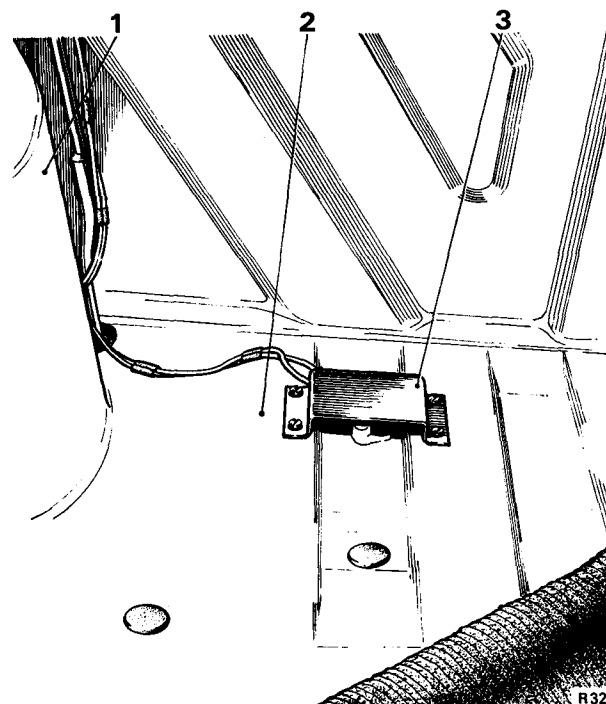

FIG. 11 BODY FLOOR TEMPERATURE SENSOR
5. Open the luggage compartment and carefully pull the carpet and felt from the floor at the forward end to determine if the metal floor in the area of the sensor is hot (see Fig. 11).
1. Open the luggage compartment and pull the carpet and felt from the floor of the luggage compartment at the forward end (*see Fig. 11*).